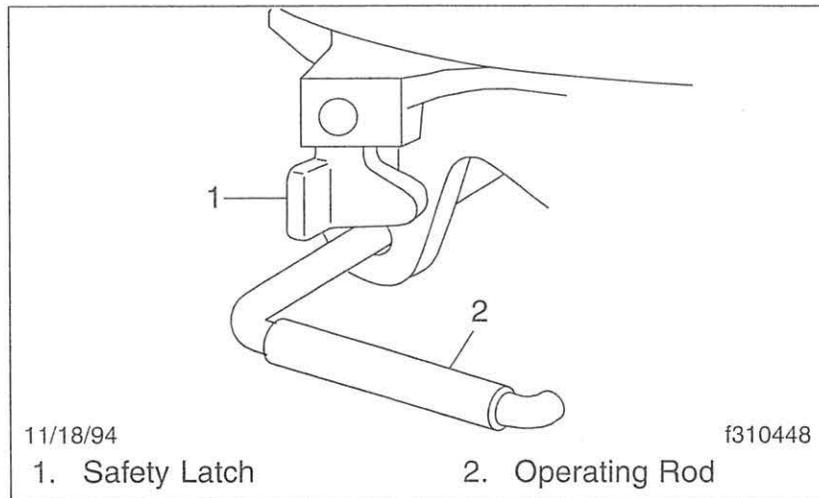

Fig. 10.12, Simplex Kingpin Locking Mechanism, Safety Latch (locked position)
During coupling, the kingpin contacts and rotates the jaw into the locked position. This action automatically moves the operating rod into the locked position. This securely locks the jaw around the kingpin. In the locked position the safety latch swings freely over the operating rod. See **Fig. 10.12**.
7. Make a visual check (even if equipped with the Touchloc air-operated system) for positive kingpin lockup. The trailer bed plate must be flush on the fifth wheel plate surface. When positive lockup has occurred, the fifth wheel operating rod will have moved inward to the locked position, and the safety latch will swing freely over the operating rod. See **Fig. 10.12**.